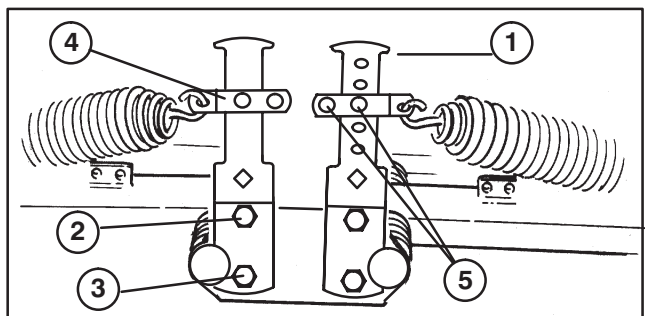

Figure 13
2. Secure other end of spring to appropriate hole (see below) on front and rear counterbalance arms (Fig. 13 & 14) with spring shackle, clevis pin and cotter pin.